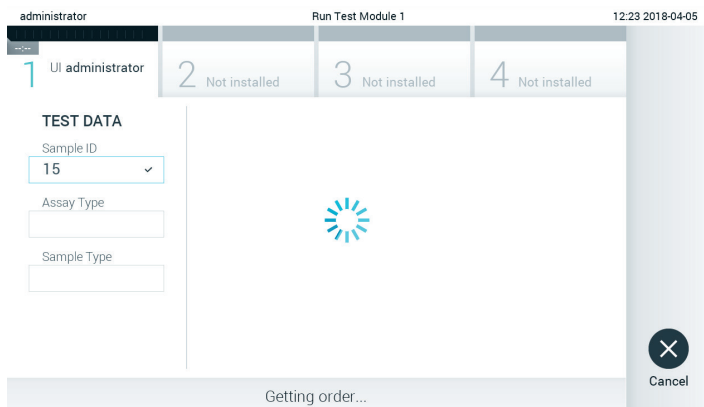

Figure 70. Display during test order retrieval.
- The sample ID will be sent to the host and while the QIAstat-Dx Analyzer 1.0 waits for a test order, the message “Getting order...” is displayed (Figure 70).